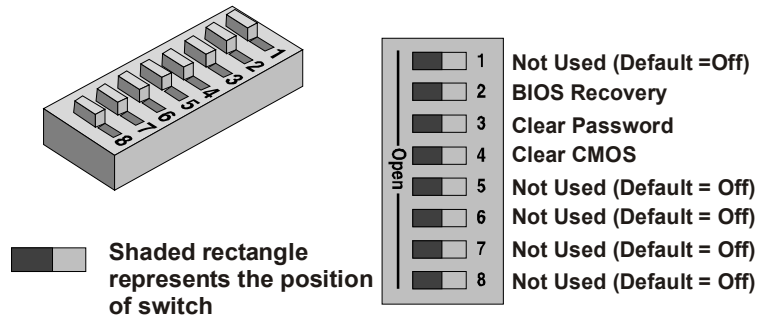

Figure 12-2. Configuration Switch Positions
3. If necessary, remove the PCI board to gain access to the battery. See Figure 12-2.